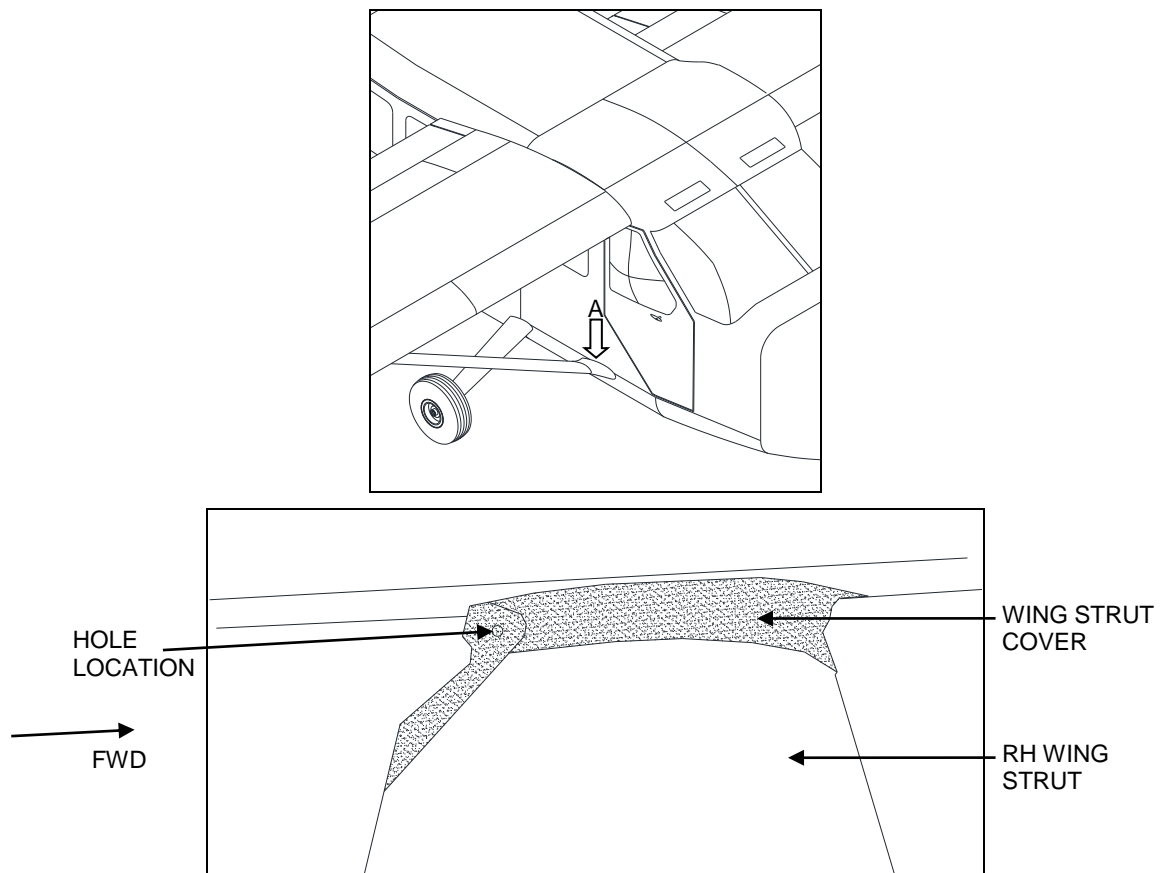

Figure 14: View A: RH Wing Strut and Wing Strut Cover
5. Drill a hole with an 11/64" drill to a diameter of 0.172", in the location where the two free ends on the Wing Strut Cover overlap, ensuring 2D edge distance is maintained. See Figure 14.